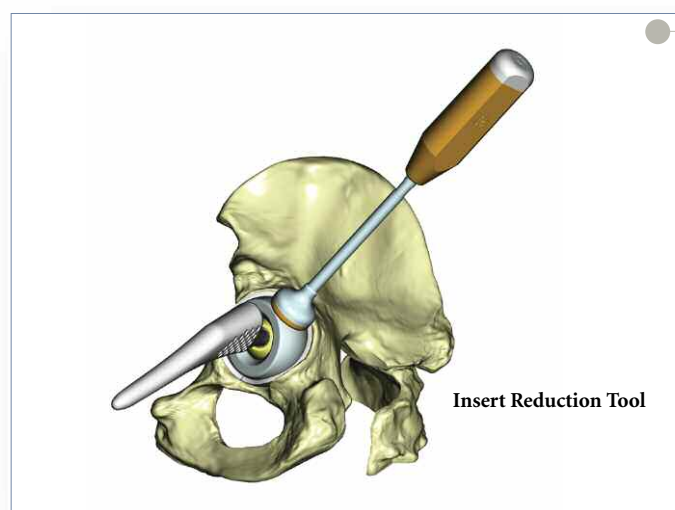

Figure 14
- ▶ Then, by exerting axial traction on the limb and pressure on the insert using the insert reduction tool (Figure 14), reduce the hip and check for laxity and range of motion. The surgical site is then closed according to surgeon preference.